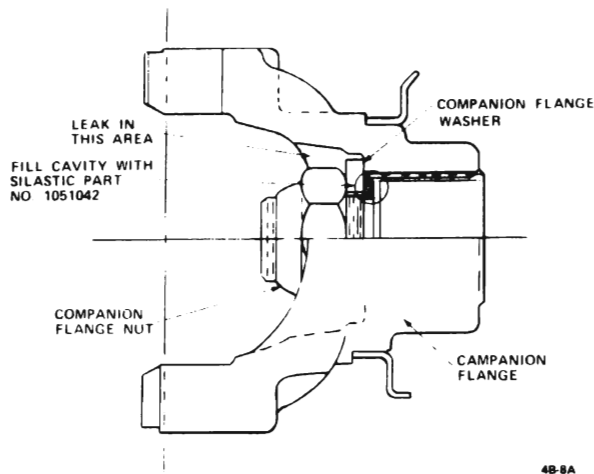

Figure 4B-8A Area to be Filled with Silastic
4. Clean cavity under pinion flange washer with lacquer thinner or equivalent. See Figure 4B-8A.